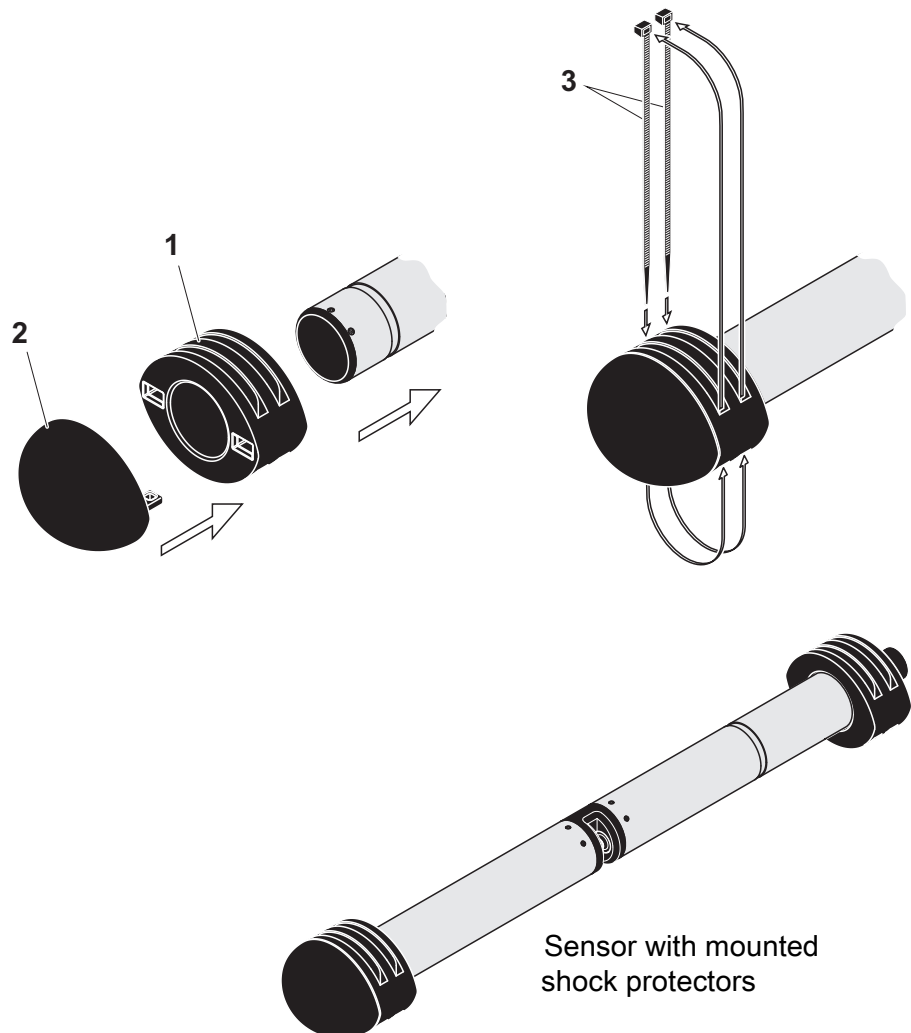

Fig. 3-4 Mounting the shock protectors
1.	Plug the cap (pos. 2 in Fig. 3-4) on one of the two rings (pos. 1).
2.	Put the assembled unit on the sensor end and fix it with 2 cable ties (pos. 3) as shown in Fig. 3-4.